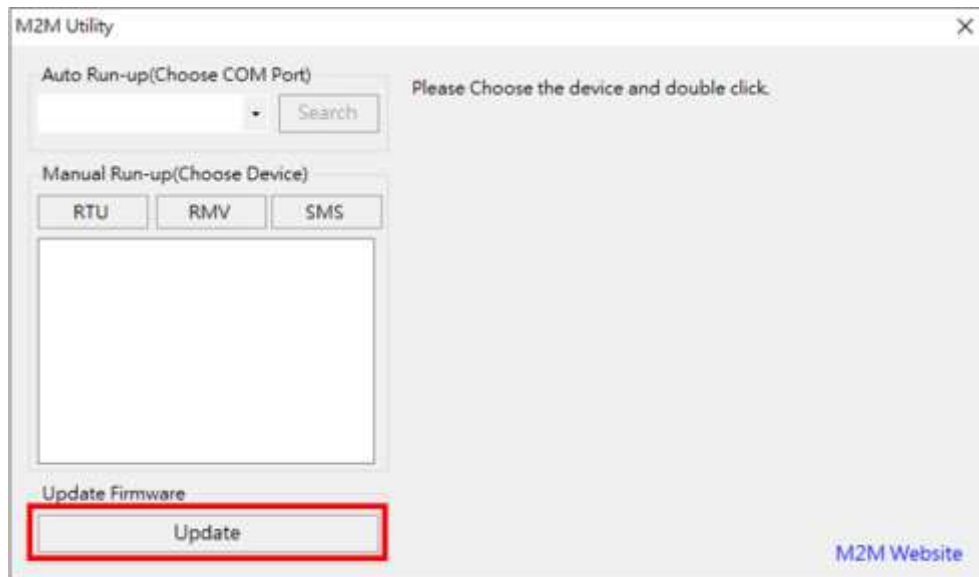

Figure 11.2.3
3. Open GTP-541M Utility and click **Update**, as shown in Figure 11.2.3.